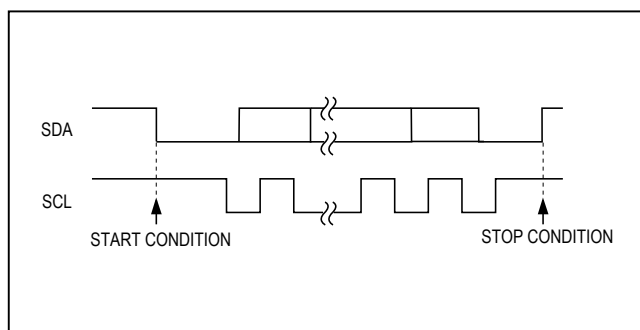
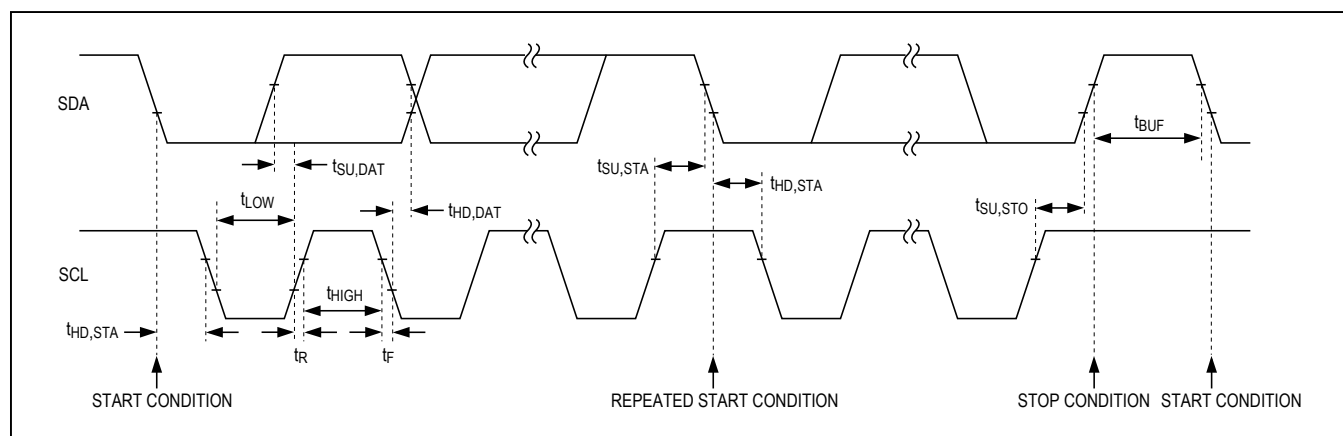
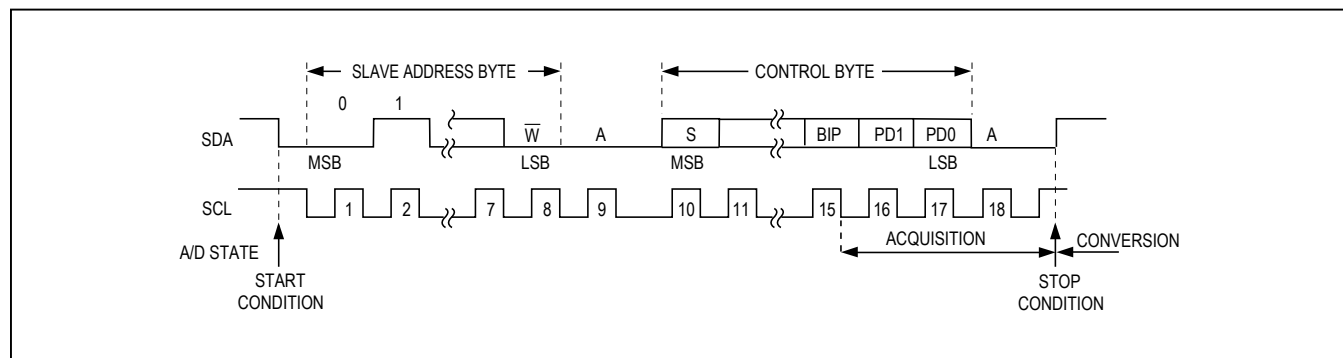

Figure 4. START and STOP Conditions
Figure 5. 2-Wire Serial-Interface Timing Diagram
Figure 9. Complete 2-Wire Serial Write Transmission
The master signals the beginning of a transmission with a START condition (S), which is a high-to-low transition on SDA while SCL is high. When the master has finished communicating with the slave, the master issues a STOP condition (P), which is a low-to-high transition on SDA while SCL is high (Figure 4). The bus is then free for another transmission. Figure 5 shows the timing diagram for signals on the 2-wire interface. The address-byte, control-byte, and data-byte are transmitted between the START and STOP conditions. The SDA state is allowed to change only while SCL is low, except for the START and STOP conditions. Data is transmitted in 8-bit words. Nine clock cycles are required to transfer the data in or out of the MAX127/MAX128. (Figures 9 and 10).
When the write bit is set ($R/\overline{W} = 0$), acquisition starts as soon as Bit 2 (BIP) of the input control-byte has been latched and ends when a STOP condition has been issued. Conversion starts immediately after acquisition. The MAX127/MAX128's internal conversion clock frequency is 1.56MHz, resulting in a typical conversion time of 7.7 μ s. Figure 9 shows a complete write cycle.